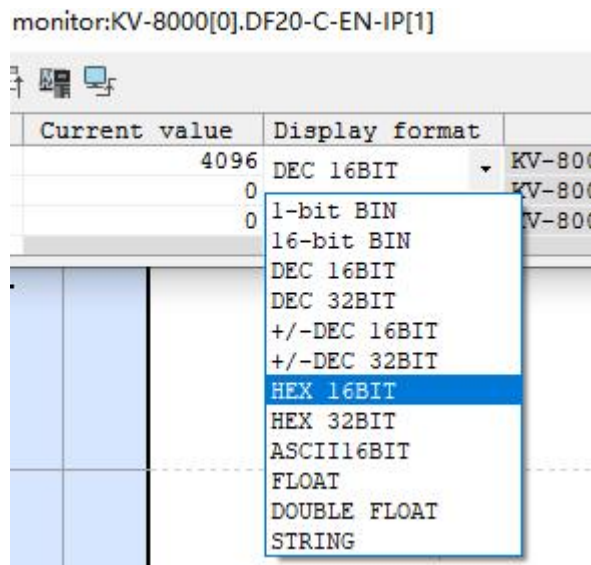

Figure 5-1-25
- W00 channel indicates module diagnostic data. When the data table is opened, 4096 indicates that the PLC is connected. In order to facilitate understanding of the meaning of module diagnostic data, it is adjusted to hexadecimal representation of \$1000, where 1 indicates that the PLC is connected. See Figure 5-1-25 to Figure 5-1-26.